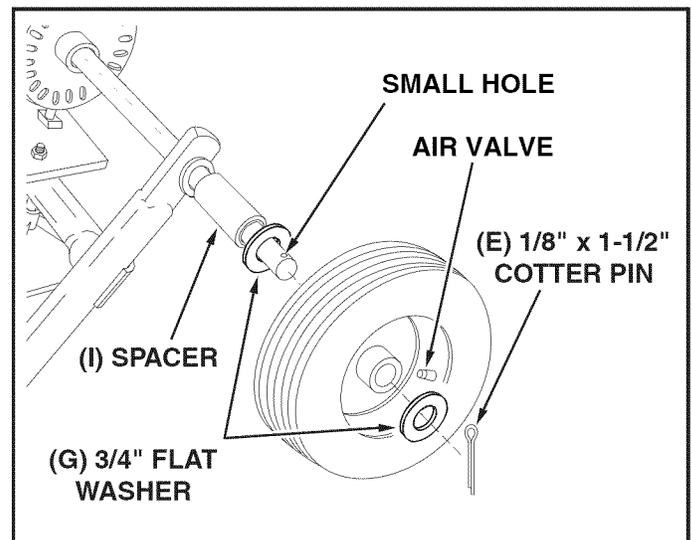

FIGURE 3
STEP 3: (SEE FIGURE 3)
- Assemble a spacer (I), a 3/4" flat washer (G), a wheel (air valve facing out) and another 3/4" flat washer (G) onto the end of the axle that has only the **small hole**.
- Install a 1/8" x 1-1/2" cotter pin (E) into the hole in the axle.